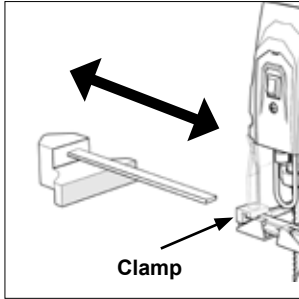

Fig 11
- Locate the clamp in the required service position on either the right or left hand side of the machines footplate just ahead of the blade. **(Fig. 11)**.
- Slide the arm of the Parallel Edge Guide through the clamp and through the two (2) rectangular slots in the footplate.